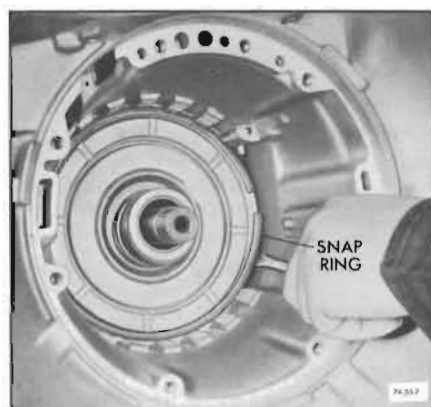

Figure 74-552
14. Remove center support to case retaining snap ring. See Figure 74-552.